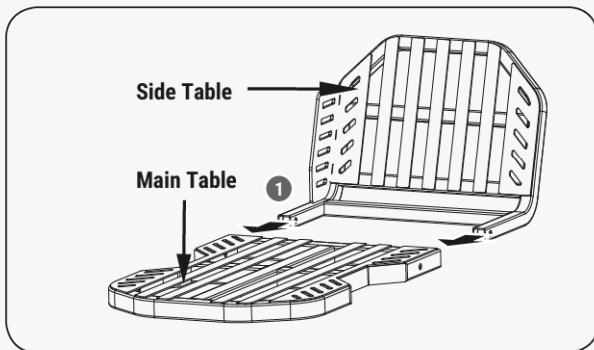

Figure 20a
1. Assemble the side table and the main table together to ensure that the hole positions at the connection are aligned. (See **Figure 20a, illustration 1.**)